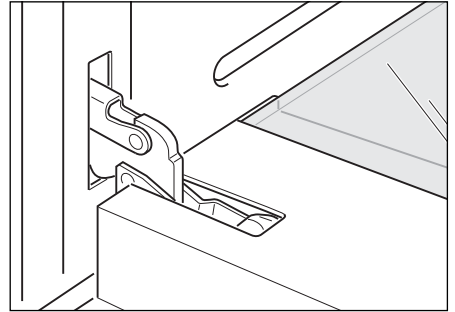

Fig.27a
- Open the door to its full extent (Fig. 27a).